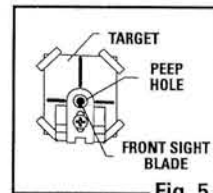

Fig. 5
- The air rifle is correctly aimed when the top of the front sight blade is positioned exactly in the center of the rear sight aperture (peephole). The bullseye should appear to rest on the top of the front sight. (Fig. 5)